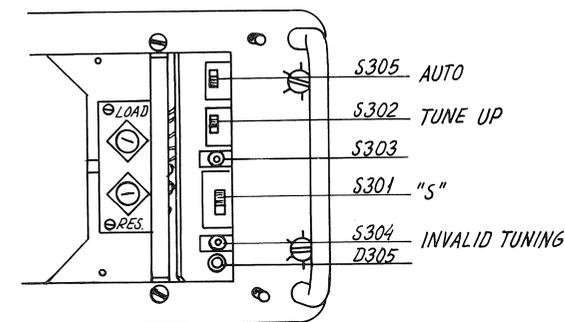

Fig. 1
5.1.20. Set S301 to position power, see fig. 1.
5.1.26. Set S301 to position Aerial Current, see fig. 1.